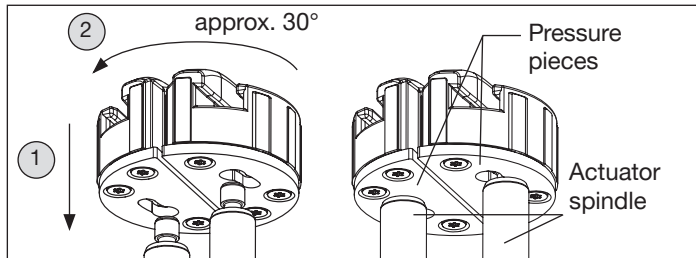

Fig. 20: Assembly pressure pieces
- Insert the pressure pieces into the actuator. Make sure that the actuator spindles are fully inserted into the corresponding recesses of the pressure pieces (see "Fig. 20").